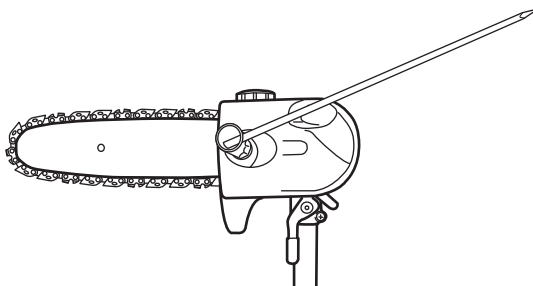

Fig. 8f
h). Refit the cover (D2), spring washer (D4) and slightly tighten the locking nut (D3). (See Fig. 8f)